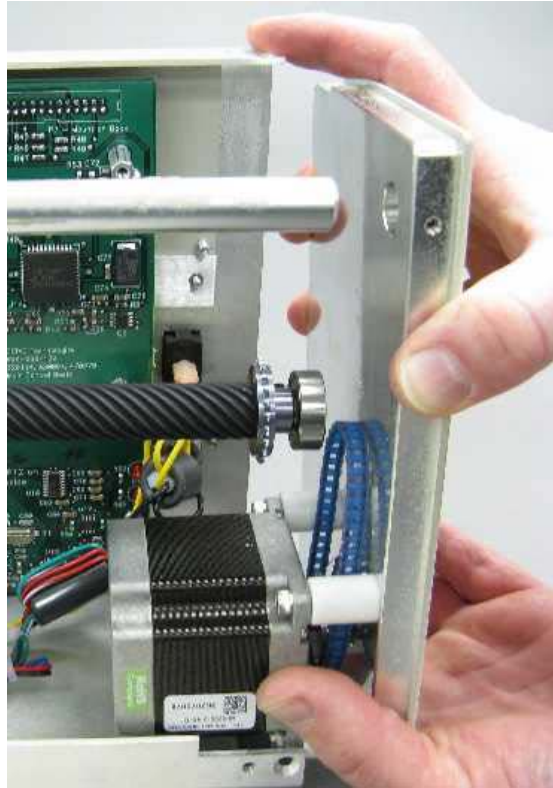

Figure 1-31 Removal of right end plate (ASX-260).
4. **Remove right end plate (Figure 1-31).** It may be necessary to lightly tap with a small hammer or mallet as the fitting is sometimes quite snug. Underneath the lead screw end bearings is a wave washer. Set these components aside to replace during re-assembly.